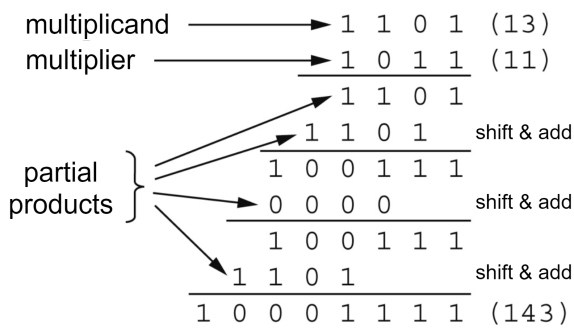
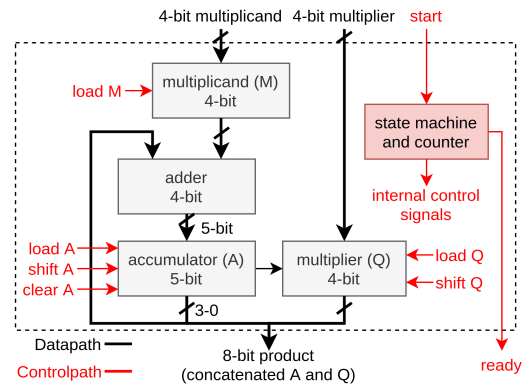
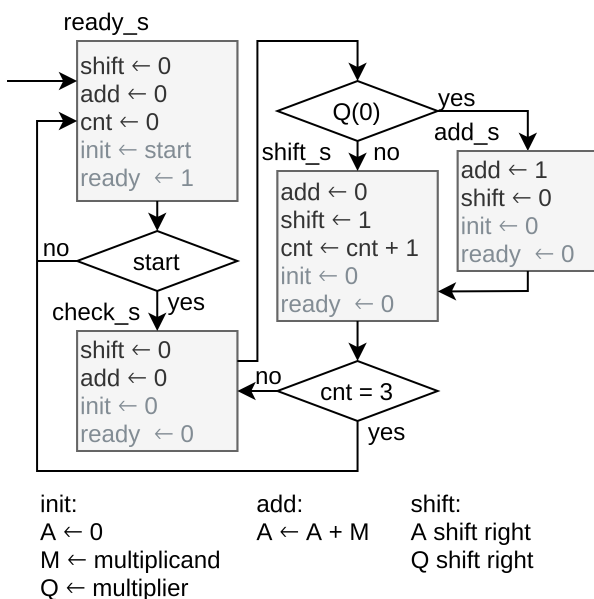

Figure 1: "Add and shift" binary multiplication.
Figure 2: Structure of the sequential multiplier.
Figure 3: Control flow graph of the multiplier.
An implementation of a 4-bit sequential multiplier is provided that performs the computation based on the *shift-and-add* algorithm (Fig. 1). The structure of the implementation is shown in Fig. 2. Note that a basic n -bit *shift-and-add* multiplier would require two n -bit registers for multiplicand and multiplier and one $(2n+1)$ -bit accumulator register for the result (including carry bit). For this assignment, an optimized multiplier is used that reuses the multiplier register to serve as an accumulator for the lower half of the result. As the multiplier bits are shifted out, the lower bits of the accumulator are shifted into this register. As a result, a $(n+1)$ -bit accumulator register is sufficient to store the result of the multiplication since the lower result bits are stored in the multiplier register.
After the reset, the design asserts **ready** signal indicating readiness for new computation. The computation starts when **start** signal is asserted by the environment. The following assertion of **ready** signal indicates that the computation is finished and the product is available. In this assignment, we mainly focus on the control path of the multiplier marked with red in Fig. 2. The *Control Flow Graph* (CFG) of the control path logic is shown in Fig. 3. Note that each state indicates which signals are asserted. Only the non-greyed-out signals should be considered for this assignment. An example of a multiplication procedure performed in the given hardware is shown in Fig. 4.
- Modify **multiplier.sv** so that it would perform computation in 8 or less clock cycles. Note that there are multiple ways of achieving this. Modifications should stay within the modifiable section in the code. The grayed-out control signals in Fig. 3 are directly derived from design states and should not be modified. **Hint:** it is known that the given register implementation **regn.sv** supports loading (e.g., sum of the addition) and shifting at the same time.